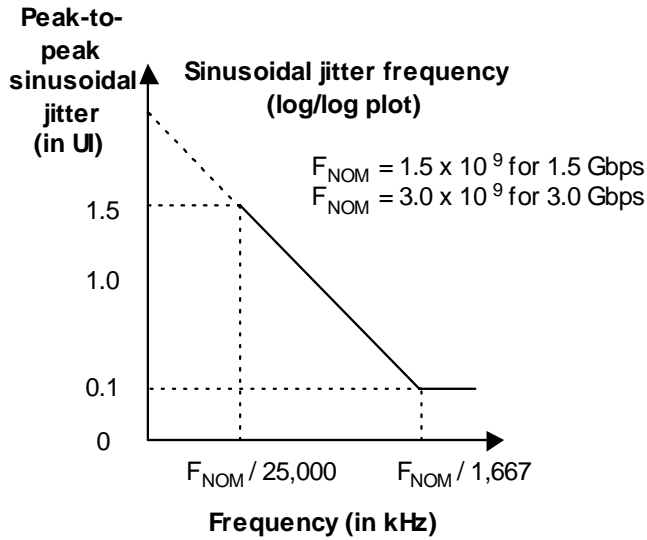

Figure 18. Sinusoidal jitter mask
Figure 18 defines the sinusoidal jitter mask.
- b The jitter values given are normative for a combination of deterministic jitter, random jitter, and sinusoidal jitter that receivers shall be able to tolerate without exceeding a BER of 10^{-12} . Receivers shall tolerate sinusoidal jitter of progressively greater amplitude at lower frequencies, according to the mask in figure 18 with the same deterministic jitter and random jitter levels as were used in the high frequency sweep.